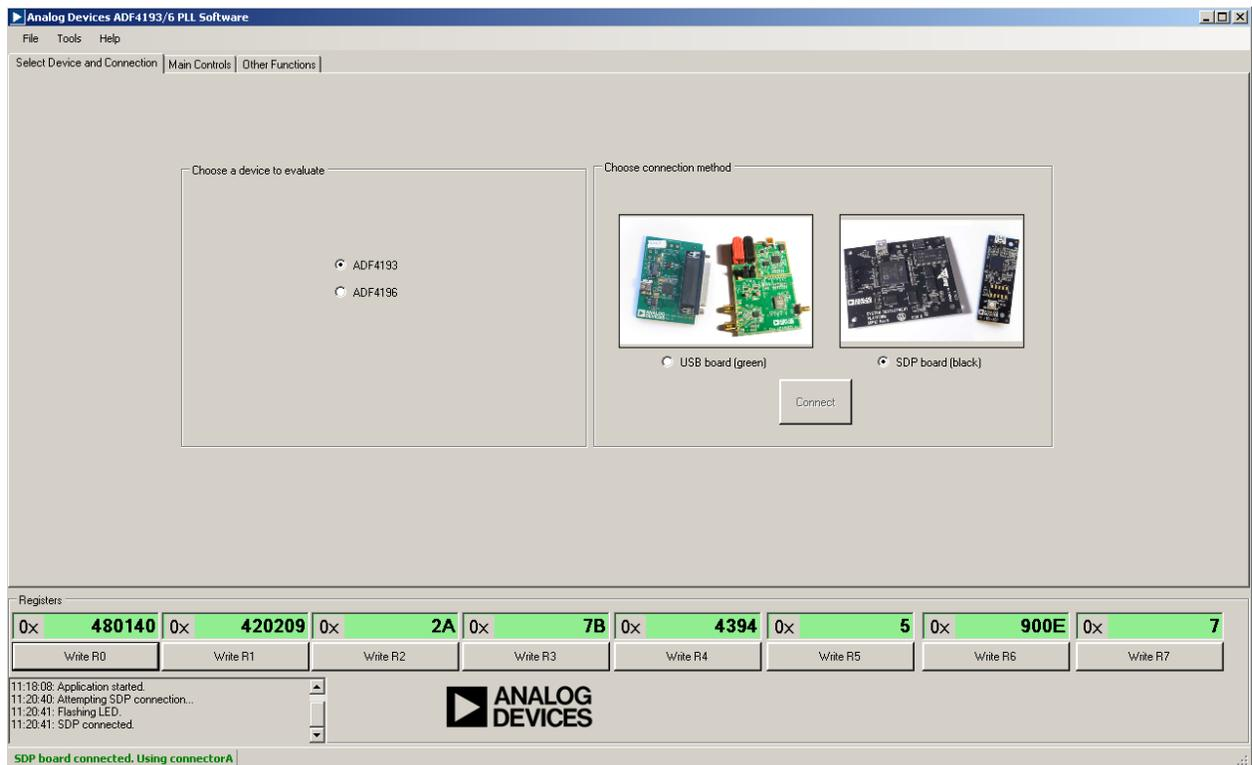

Figure 4. Software—Device Selection
3. Select ADF4193 or ADF4196 and SDP board (black), and then click **Connect** (see Figure 4).